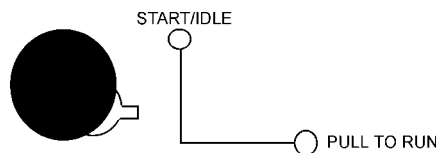

Figure 52. Engine Speed Switch (low)
9. Once the engine is warm and the engine is running properly, pull and turn the lever to 'RUN' (Figure 52).